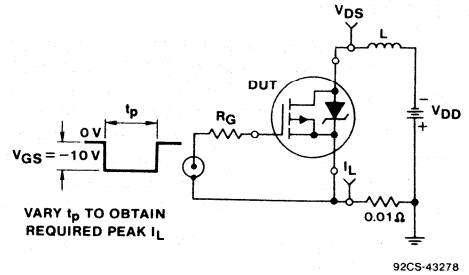

Fig. 15 - Unclamped inductive test circuit.
- ③ $V_{DD} = 25V$, Starting $T_J = 25^\circ\text{C}$, $L = 6.2 \text{ mH}$, $H_p = 25\Omega$, Peak $I_L = 11 \text{ A}$, (See Fig. 15 and 16).